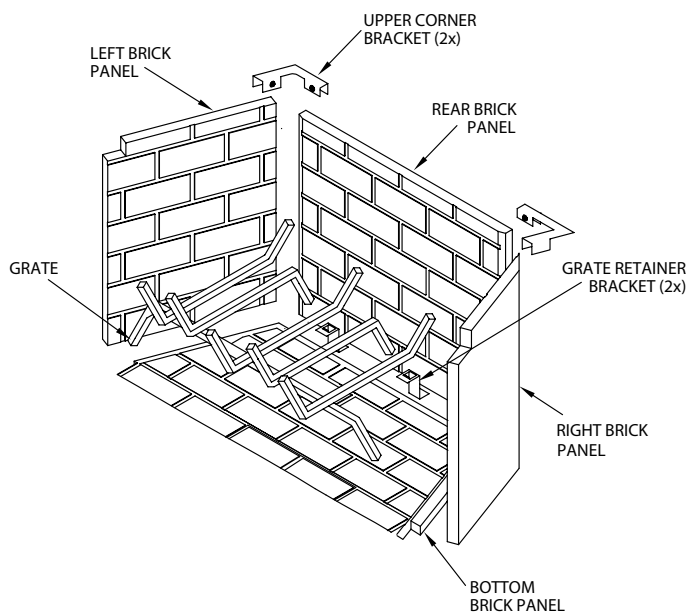

Figure 36a - Installing Refractory Panels
5. Install upper corner brackets and tighten set screws (see Figure 36a).
6. Install grate by placing rear legs into slots in the grate retainer (see Figure 36a).